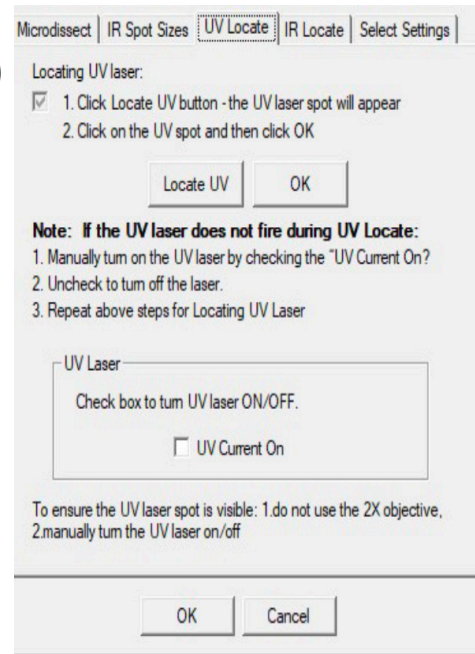

Figure 10
2. Click the **UV Locate** tab (see Figure 10), then follow the steps in the dialog box.